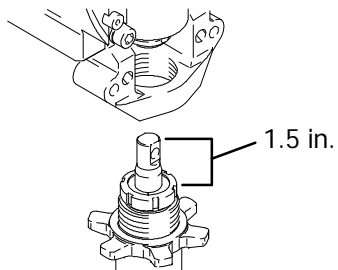

Fig. 19
1. Fig. 19. Pull piston rod out 1.5 in. Screw in pump until holes in bearing cross link and piston rod align.